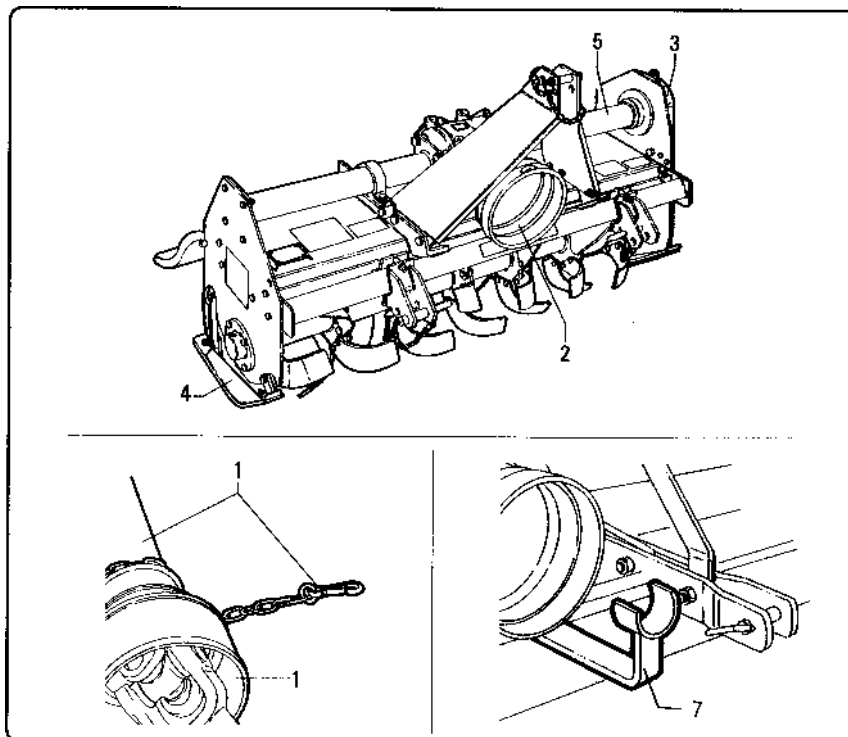

fig. 1.4.1
- 9 – Rear hood (fig. 1.4.1).
- Key to the safety devices (fig. 1.4.1)